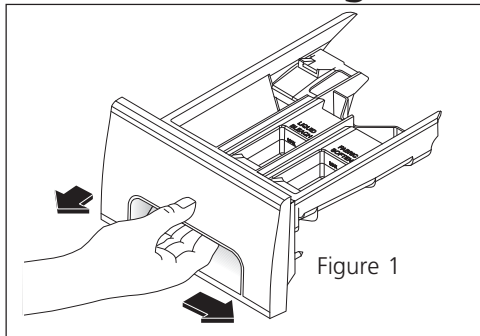

Figure 1
- Remove the drawer by first sliding the safety latch to the right, then pulling the drawer out until it stops. (Figure 1)
Water collects in bleach and fabric softener compartments.	<ul style="list-style-type: none">• This is a result of the siphoning action and is part of the normal operation of the washer. Water may be removed by removing the dispenser drawer (see Page 9, Figures 1 and 2) and draining water into the empty drum or sink.